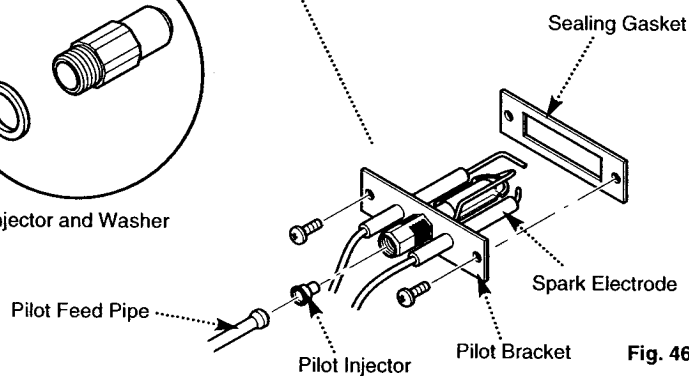

Fig. 46
**4. The new pilot assembly must be fitted as shown, with the spark electrode to the right (Fig. 46).**